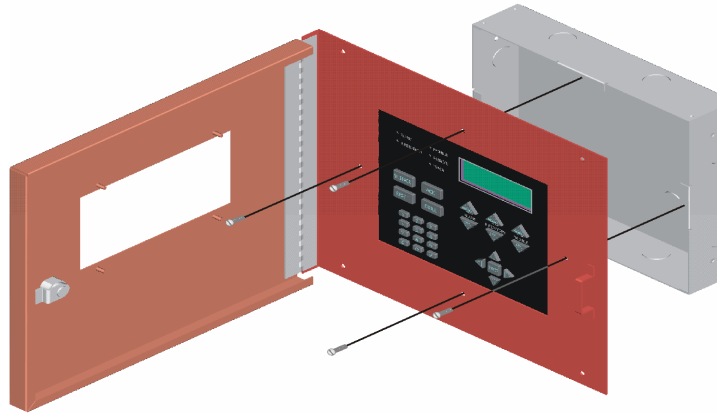

Figure 4.14 Attaching Annunciator/Door Assembly to Backbox
4. Attach the annunciator and door assembly to back box as shown in Figure 4.14 using the supplied screws.